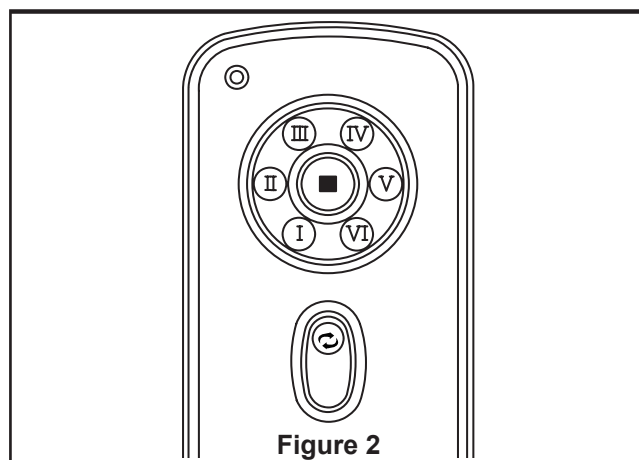

Figure 2
3. The remote buttons instruct as below: (Figure 2)